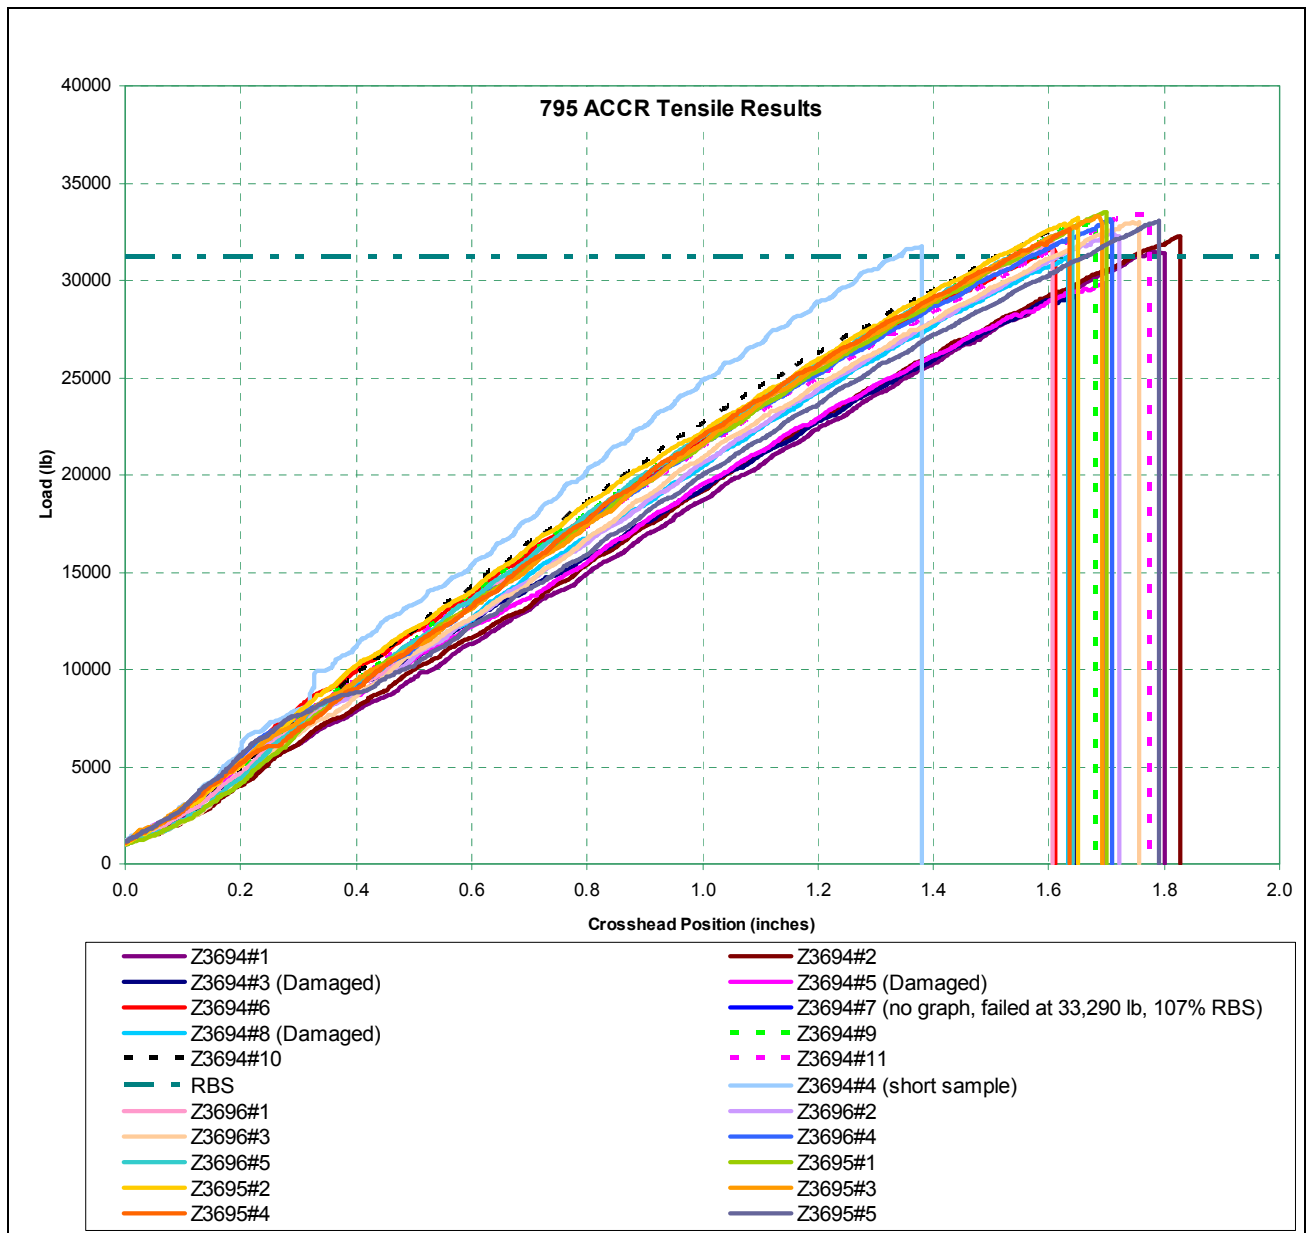
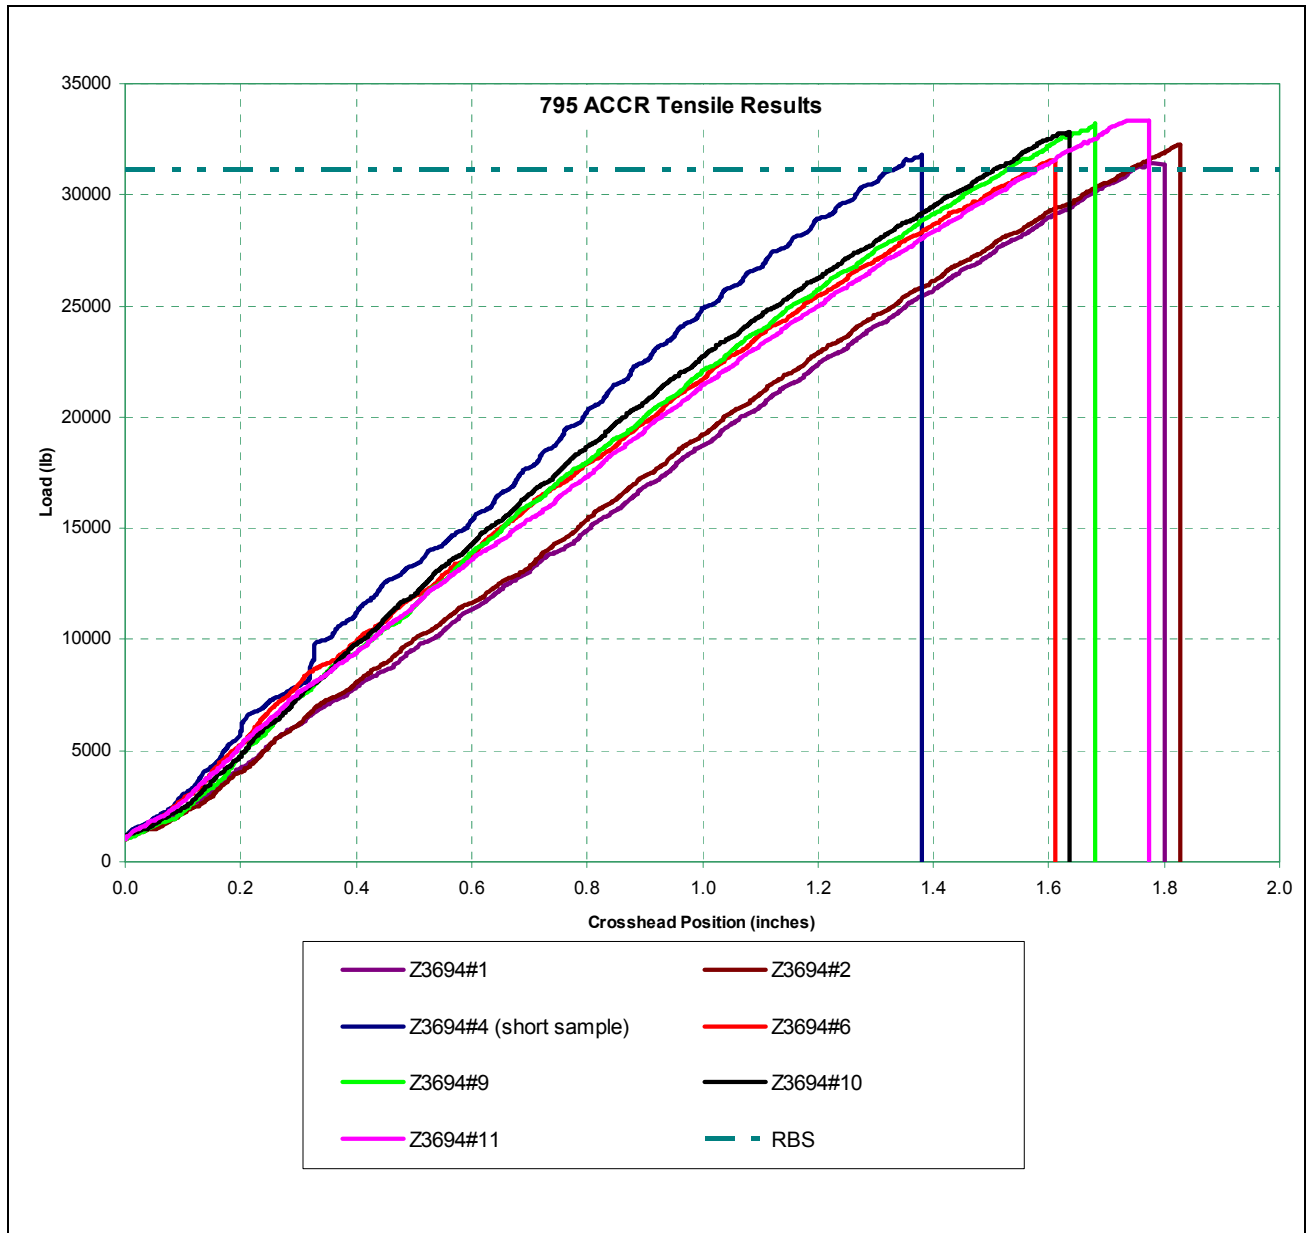
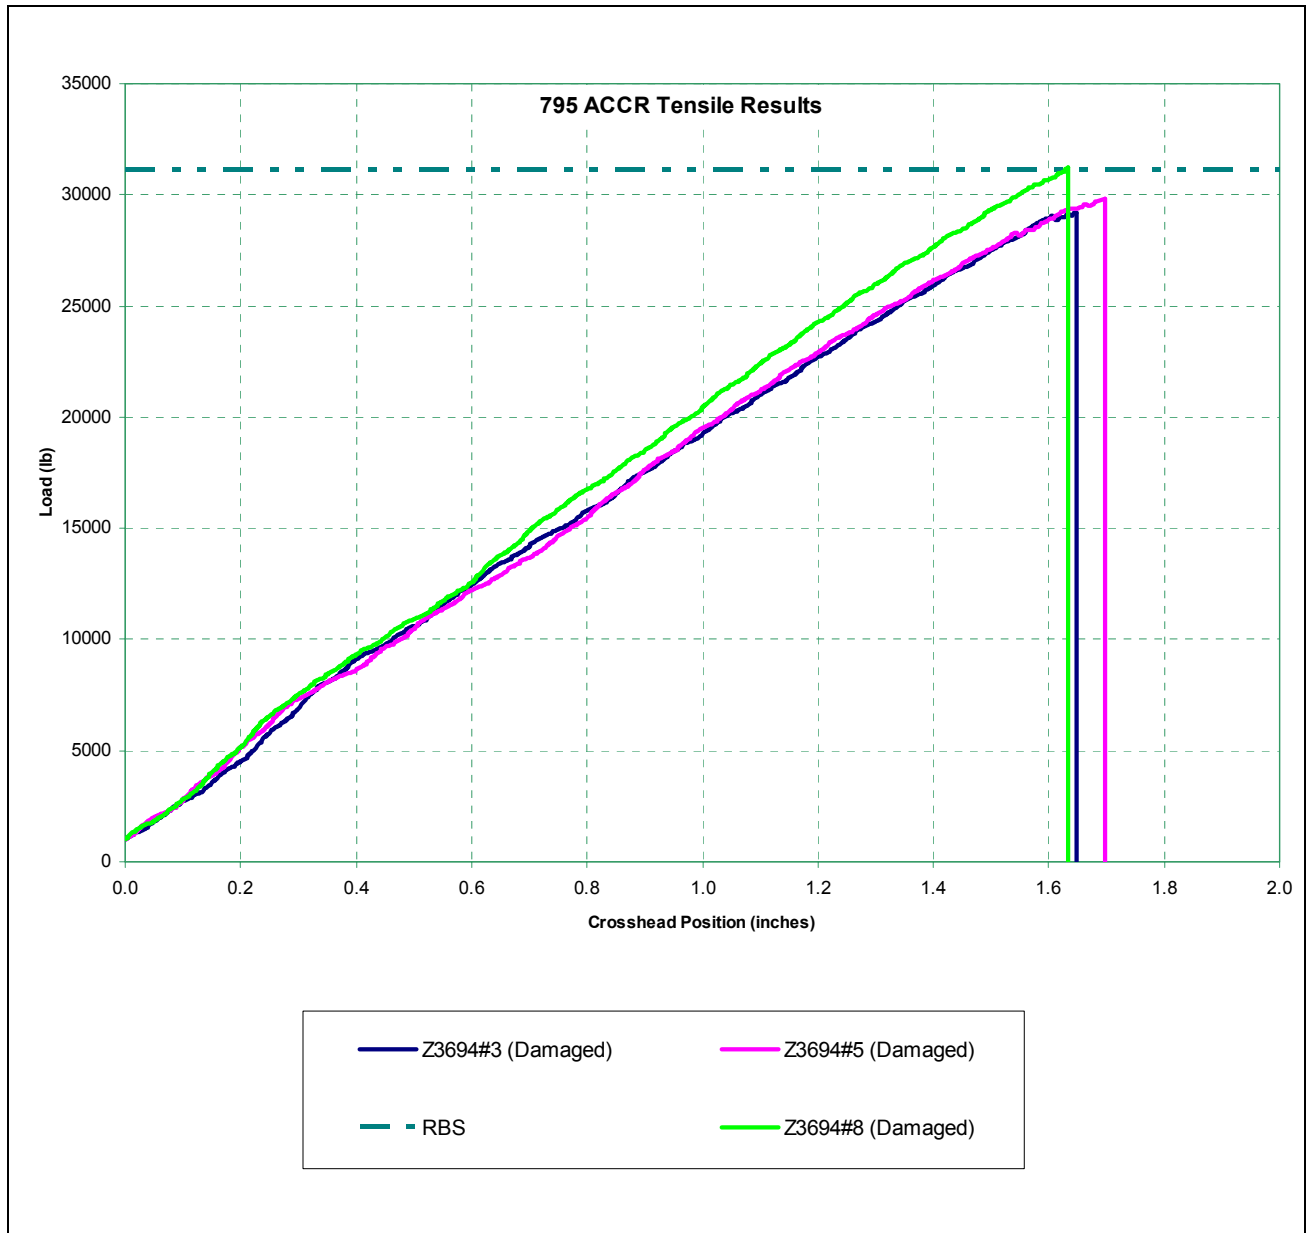

Figure 1, load vs. displacement for all 795-kcmil, 3M™ Composite Conductor samples. The same data are shown in groups in Figures 2 through 5.
Figure 2, test data for samples cut from Reel # Z3694
Figure 5, test data for samples inadvertently damaged during sample preparation
Figure 1 shows load versus actuator displacement data for all samples tested. Figures 2 through 4 show the same data, sorted by reel #. Figure 5 shows the data from the three damaged samples.
- 1) Samples 3, 5, and 8 failed at damage from overaggressive application of bolted clamps. See Figure 5 for data from Samples 3, 5, and 8.